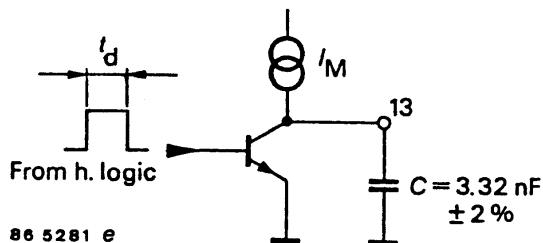

Figure 3.
H. ramp generator, see figure 3	Pin 13